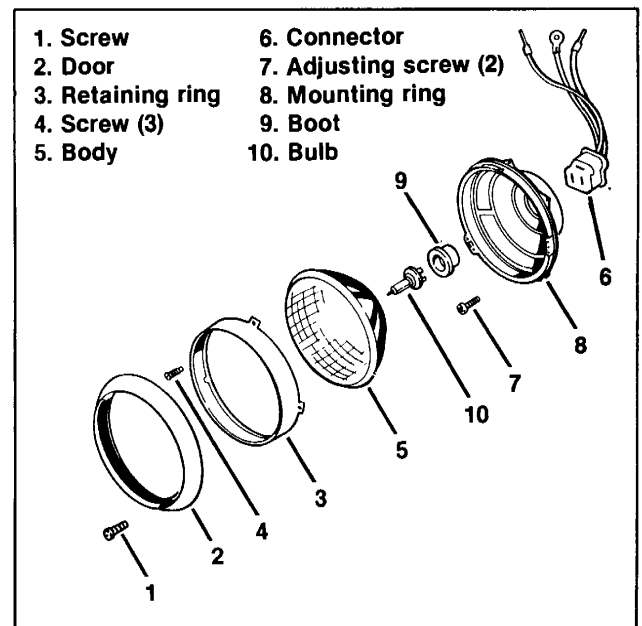

Figure 8-23. Headlamp Assembly — FLHT/C
3. See Figure 8-23. If beam requires adjustment turn top adjusting screw (7) in or out to raise or lower the top of the main beam of light so it is even with, but not higher than, the horizontal line.
4. Turn adjusting screw (7) on left side of headlamp so main light beam shines straight ahead.
1. See Figure 8-23. Remove headlamp door screw (1) and headlamp door (2). It may be necessary to loosen and tip the fairing to remove the door on 1985 and earlier models.
2. Remove the three retaining ring screws (4) and retaining ring.
3. Remove headlamp body (5) and unplug connector (6).
4. Remove rubber boot (9), press wire clip together and remove bulb (10).
1. See Figure 8-23. Install new bulb into headlamp body (5) and secure with clip.
2. Plug connector (6) into bulb and install in housing. Adjust light beam as described under ADJUSTMENT.
3. Secure headlamp to housing with retaining ring (3) and screws (4).
4. Install headlamp door (2) with screw (1).